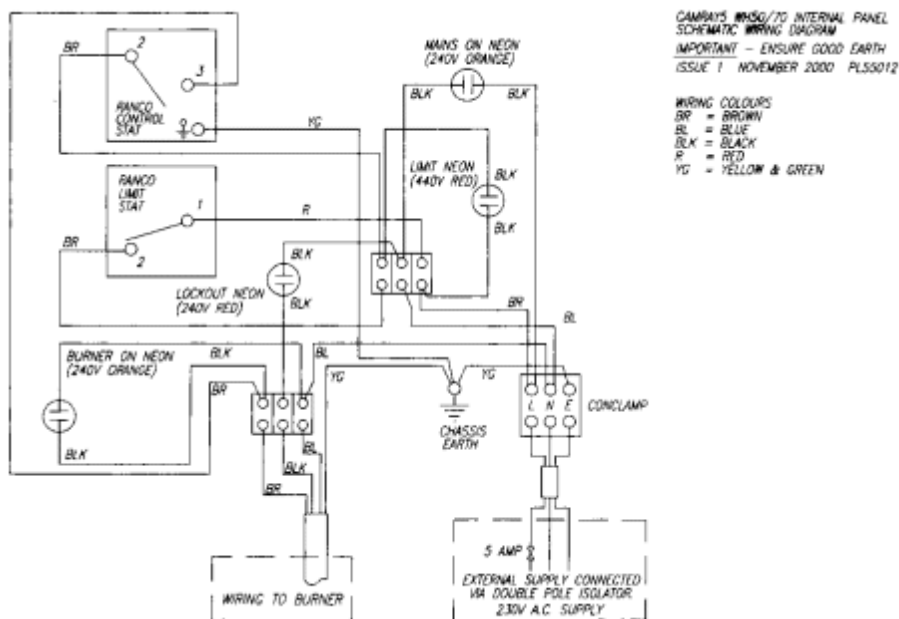

Fig. 4:11 Wiring Diagram.
Connect the mains electrical supply to the Control Panel. See Fig. 4:10a.
1. Insert the Boiler Control Stat 8mm Plain Phial into a pocket on the top of the Boiler Heat Exchanger as shown in Fig. 4:10b.
2. Insert the Limit Stat 8mm Coiled Phial into the second pocket on the top of the Boiler Heat Exchanger. See Fig. 4:10b.